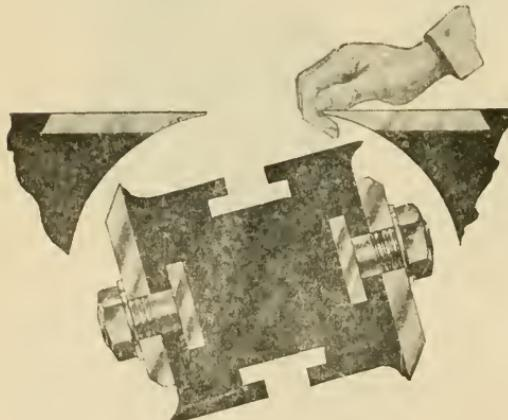
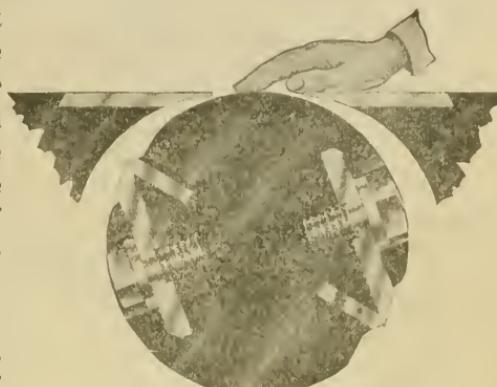

FIG. 4.—SQUARE HEAD.
FIG. 5—SAFETY HEAD
7. THE HEAD-- Formerly all jointers were equipped with square heads, illustrated in Fig. 4, but these are so much more dangerous to the operator because of the fact that in case of accident one is apt to have an entire hand or at least most of the fingers of the hand drawn into the machine. This can be verified by comparing the larger opening, Fig. 4 with that of the circular head, Fig. 5. While it is still dangerous to the operator to get his fingers in the machine,
2. Use a guard at all times, except when dadoing. Good types are shown in Figs. 5 and 6.